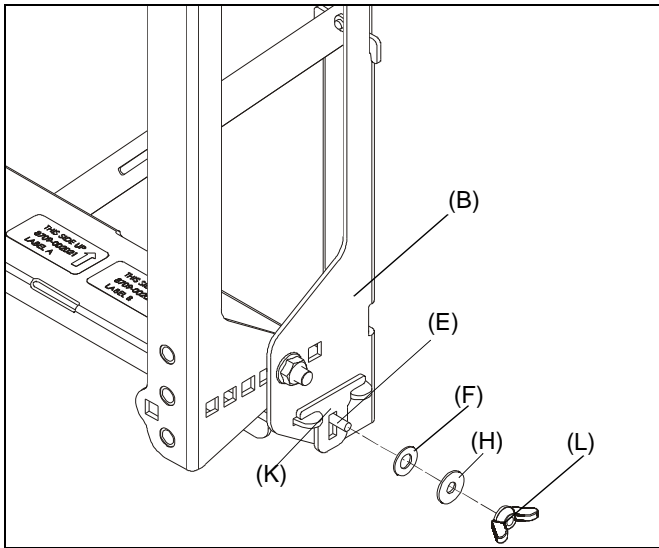

Figure 5
- Use #10-24 x 5/8" carriage bolt (E), #10-24 wing nut (L), 1/4" washer (F) and #10 washer (H) to secure locking tab (K) to right wall bracket (B). (See Figure 5)